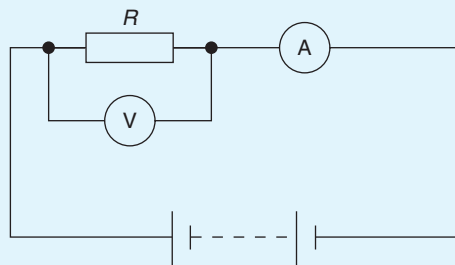

Figure 5.44
11. If in the circuit shown in Fig. 5.44, the reading on the voltmeter is  $5\ \text{V}$  and the reading on the ammeter is  $25\ \text{mA}$ , the resistance of resistor  $R$  is: